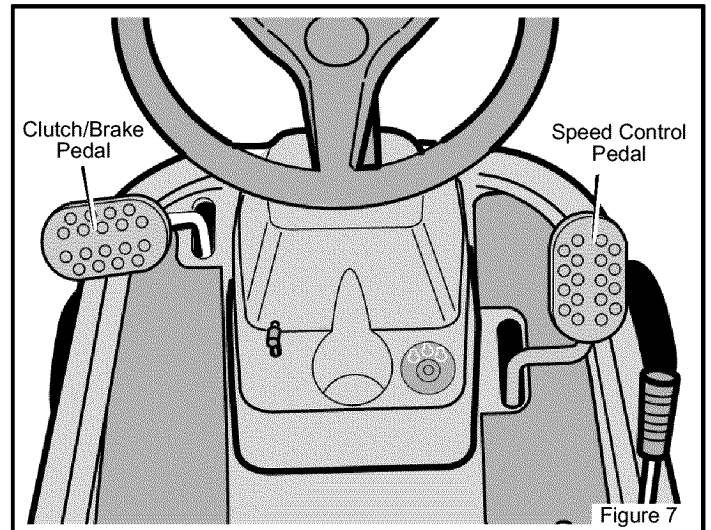

Figure 7
The drive system uses a variator pulley connected to a two speed transaxle. The Variator Drive is very easy to operate. This type of drive system has a two speed shift lever, a clutch/brake pedal on the left side and a speed control pedal on the right side (see Figure 7).
1. Completely push the clutch/brake pedal forward to stop the unit (see Figure 7). Keep your foot on the pedal.
3. Slowly release your right foot from the clutch/brake pedal (see Figure 7). Do not keep your foot on the clutch/brake pedal.
5. Slowly push the **speed control pedal** forward to the desired speed (see Figure 7).
4. Slowly release your left foot from the clutch/brake pedal (see Figure 7). Do not keep your foot on the clutch/brake pedal.
2. Completely push the clutch/brake pedal forward to stop the unit (see Figure 7). Keep your foot on the pedal.
4. Slowly release the clutch/brake pedal (see Figure 7).